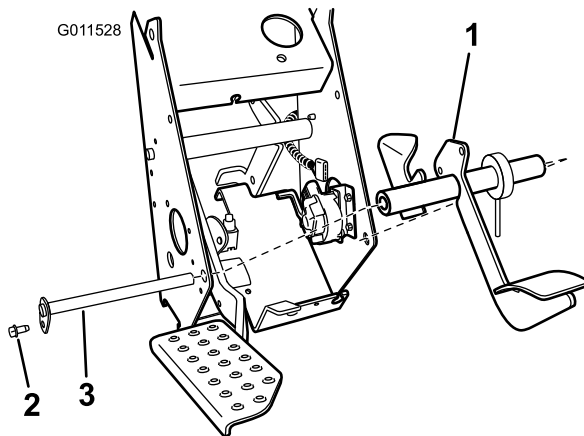

Figure 8
5. Install the pedal assembly into the pedal box (Figure 8). Secure the pedal assembly with the pedal pivot rod and bolt.